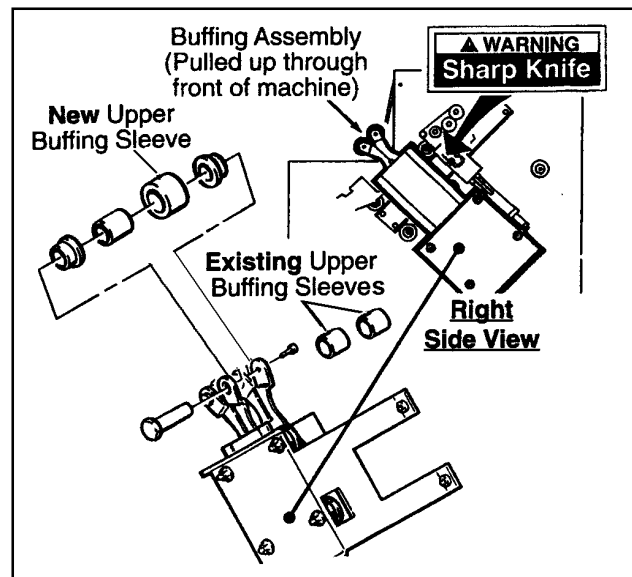

Figure 1—Replace Buffing Sleeves
1. Pull buffing assembly up through front of machine and replace existing upper buffing sleeves with the new larger diameter upper buffing sleeve supplied with this kit. See Figure 1.